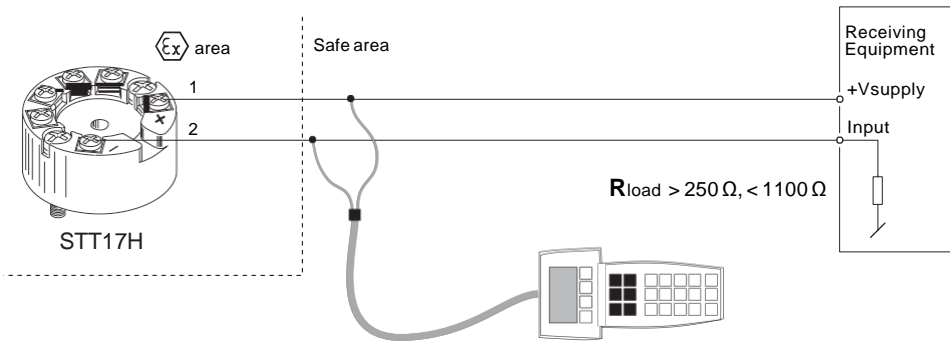

Figure 1-5 HART® Communicator
- With a HART® communicator with Honeywell's DDL Driver (Figure 1-5).
For programming, please refer to Figure 1-5. To gain access to product specific commands, the HART® communicator must be loaded with the Honeywell's DDL driver. This can be ordered either at the HART® Communication Foundation or at Honeywell.